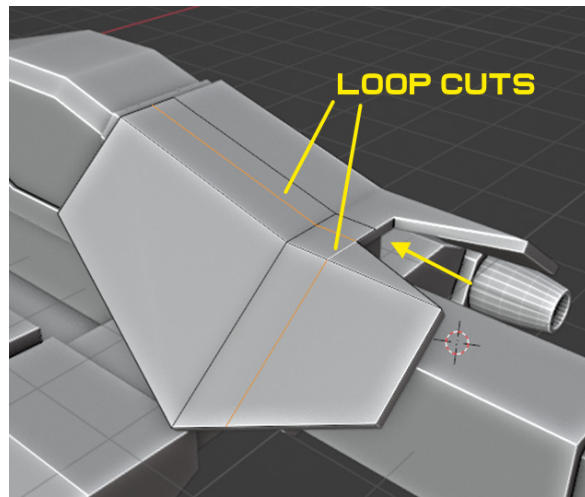

Figure 5.33 – Loop cutting the armor panel
4. Add a few loop cuts to this shape and push the rear edge inward, as shown in *Figure 5.33*.